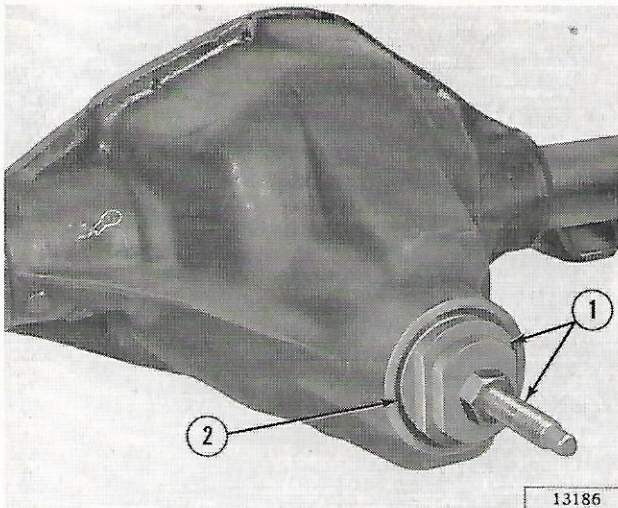

FIG. 11-11—INSTALLING OUTER BEARING CUP
- Install outer bearing cup using Tool W-100-60-70, as shown in Fig. 11-11.